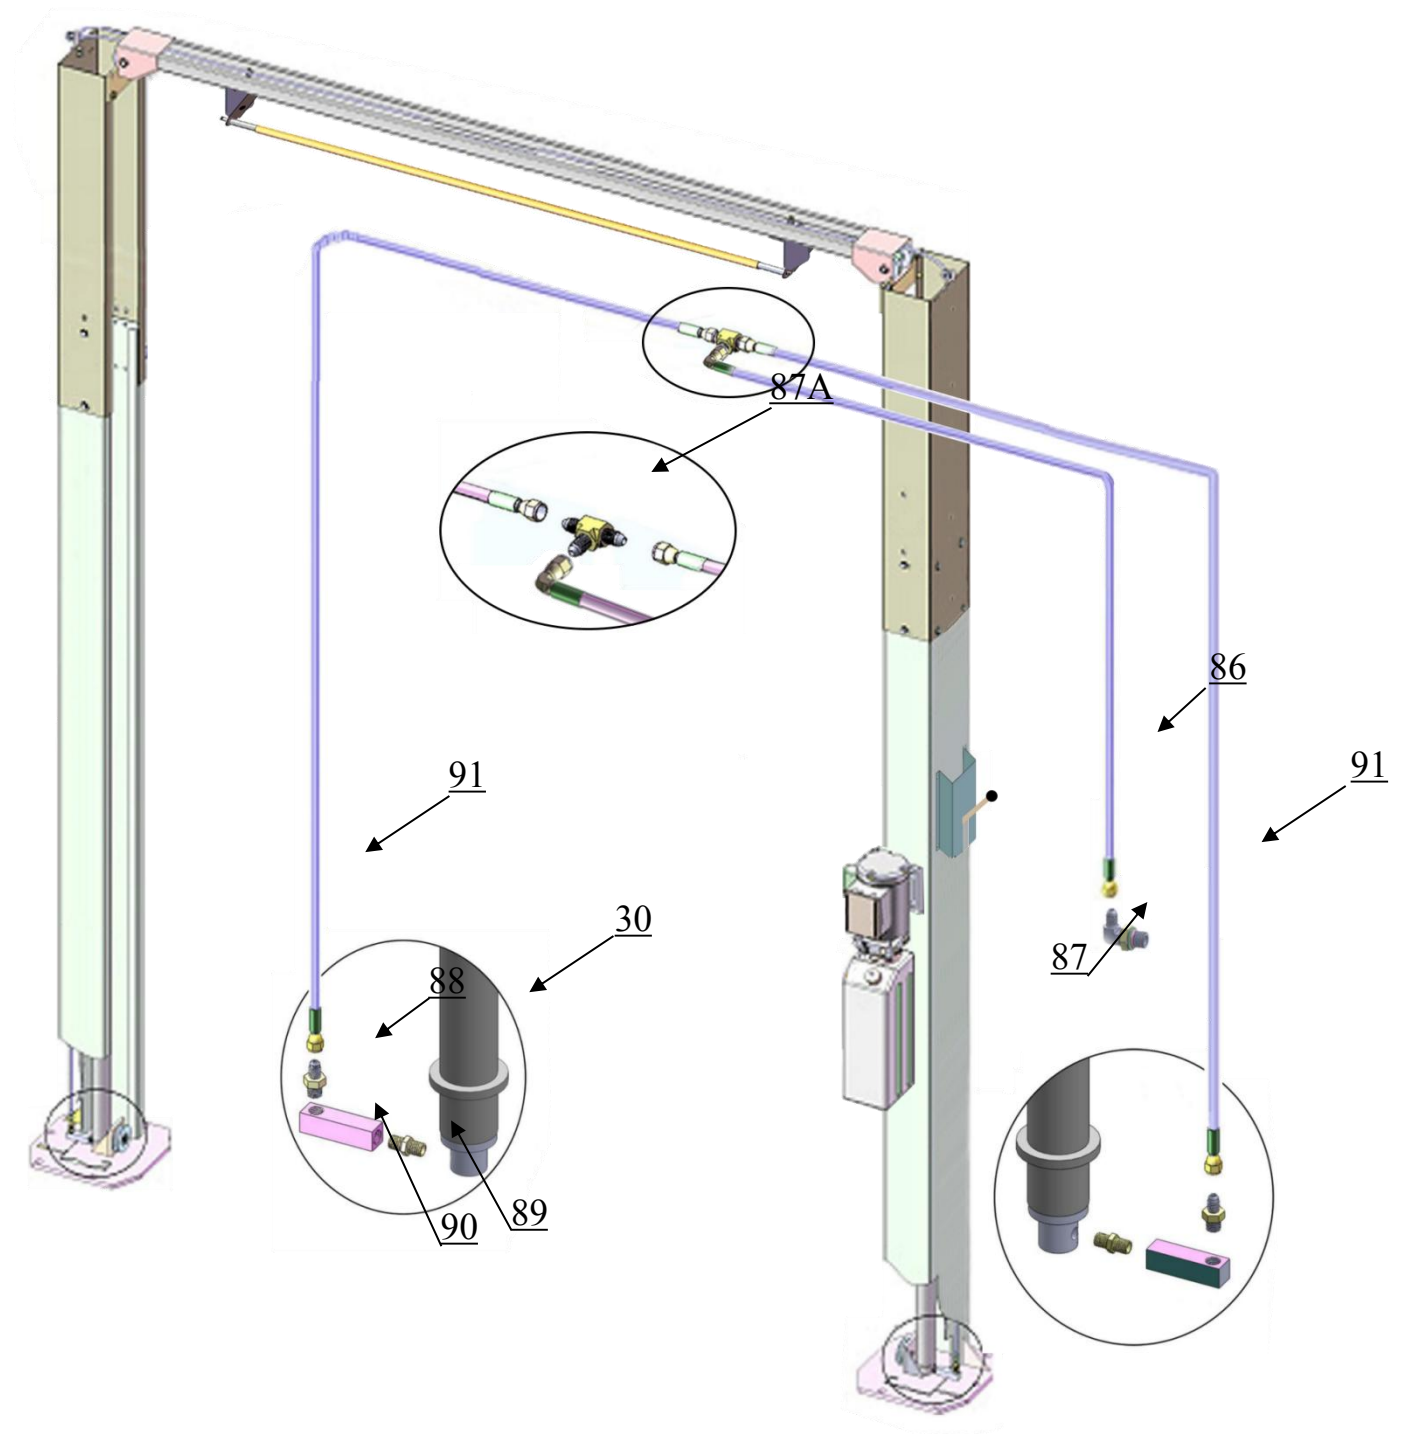

Fig.29
1. Oil-line connecting drawing. **(See Fig.29)**